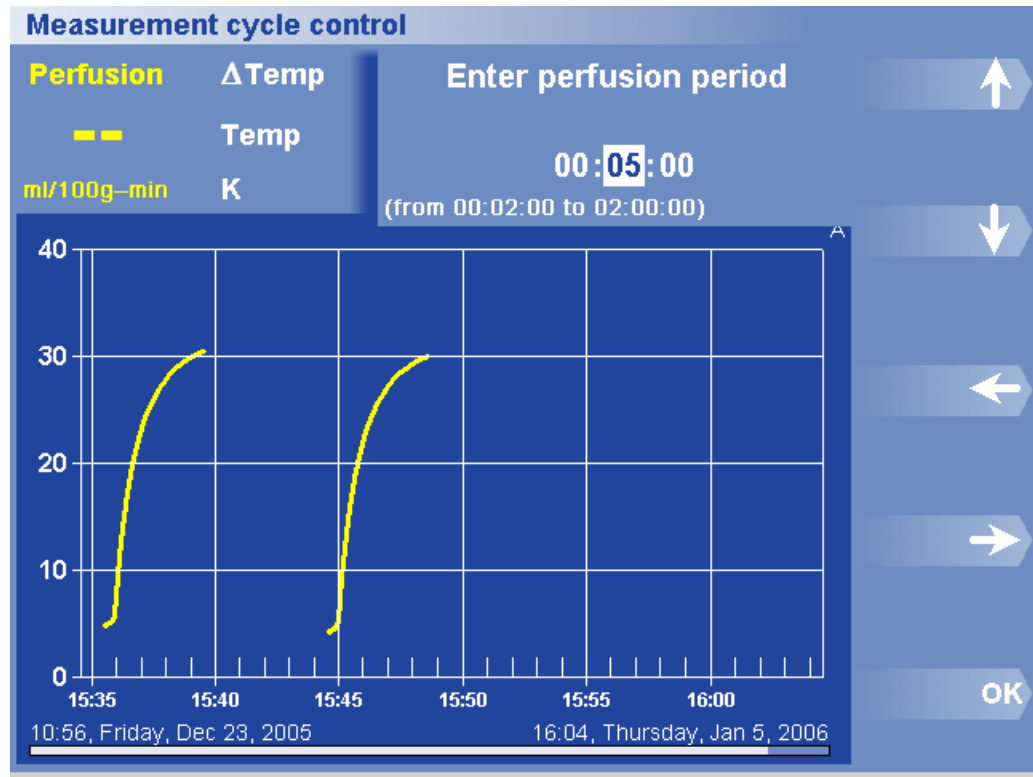

Figure 41. Perfusion Period Dialog Box and Menu
2. Press Perfusion Period. The Perfusion Period dialog box appears (Figure 41).